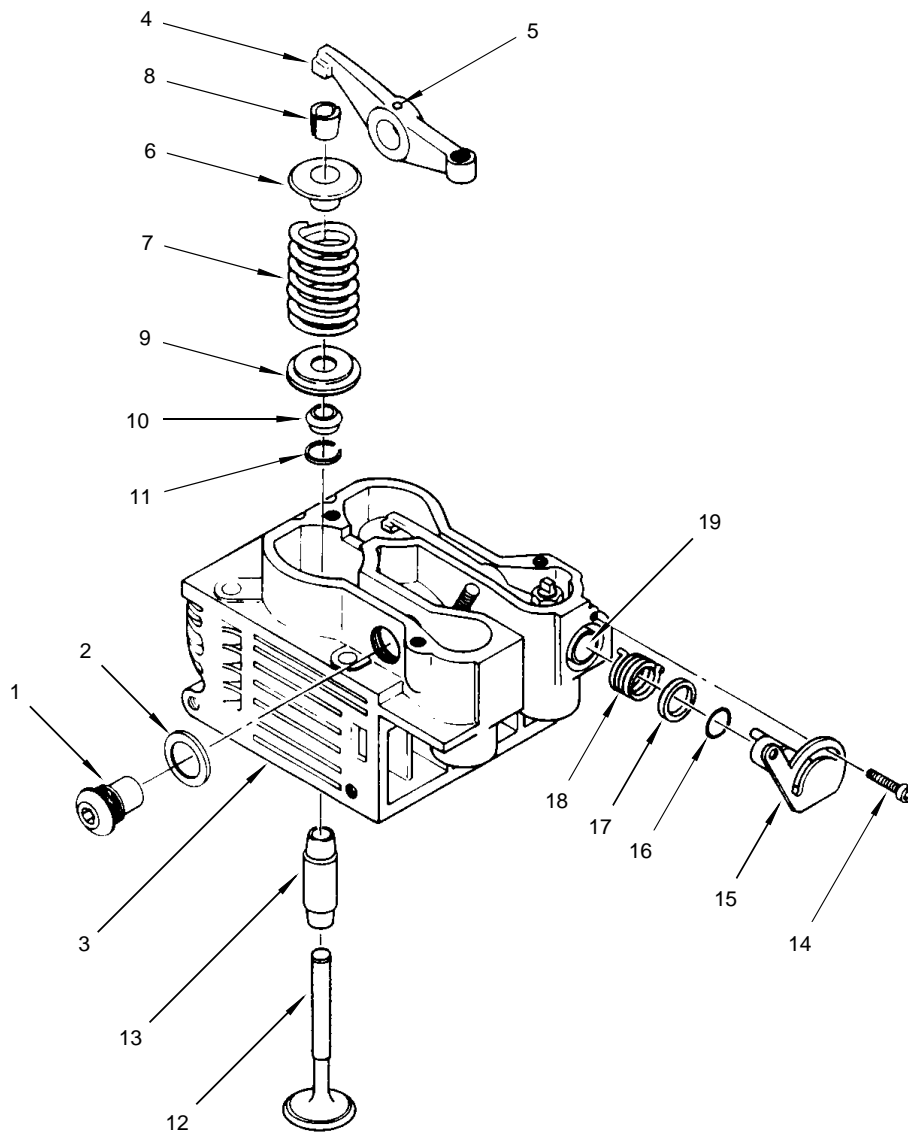

Figure 25. Cylinder Head Disassembly
**DISASSEMBLE CYLINDER HEAD.** (Refer to figure 25.)**INITIAL SET-UP:****Tools:**
For clarity, only the exhaust valve assembly is shown exploded in figure 25. The following procedure also applies to the intake rocker arm assembly and to either cylinder head.